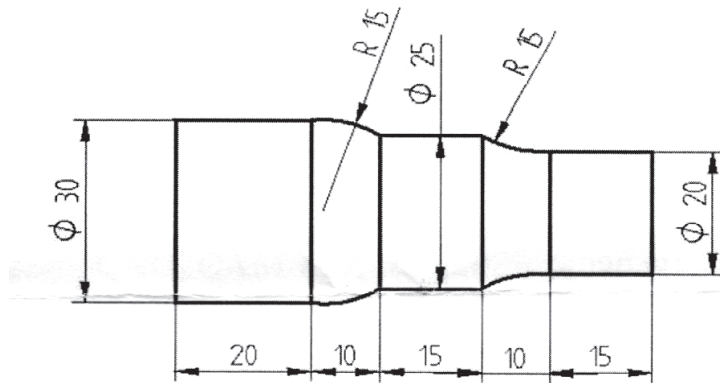

Figure 3: Qu 6(b)
- b)** Write CNC part program for turned component as shown in figure 3 using canned cycles. Assume suitable cutting data. [12]